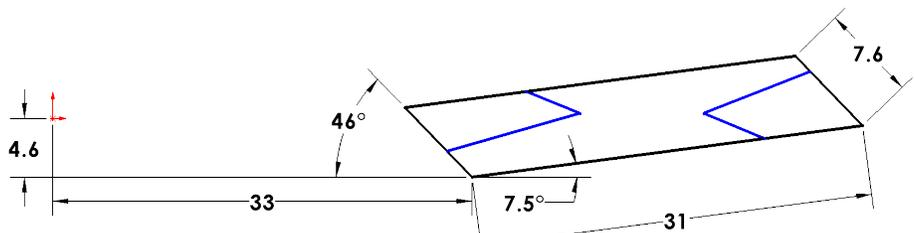

Fig. 75
Step 8. Click **Line**  (L) on the Sketch toolbar.
Step 9. Sketch the **4 lines**, **Fig. 75**.